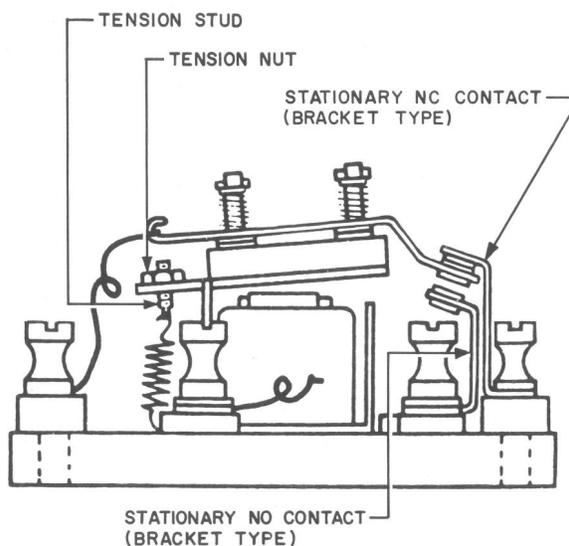

Fig. 8 – KS-5451 Relay
3. To add a figure and to revise replacement information due to change in manufacture for the KS-5451 control relay (Fig. 8 and 3.21).